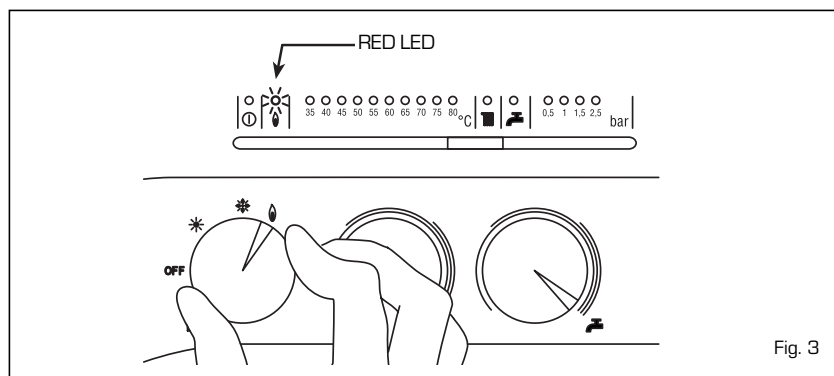

Fig. 3
- **Ignition lock-out** (fig. 3)